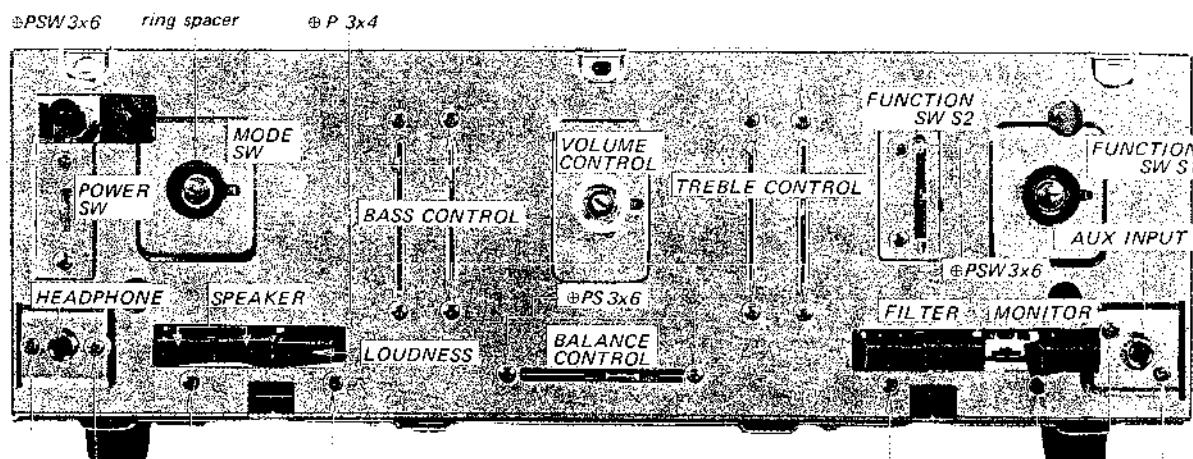

Fig. 2-5 Control and switch replacement
1. Remove the screws (\oplus PSW3x6) securing the switch or control to the front subchassis as shown in Fig. 2-5.
2. Remove the two screws ($\#PS3 \times 6$) securing the printed circuit board to the front sub-chassis. See Fig. 2-5.
the control to the front subchassis as shown in Fig. 2-5.